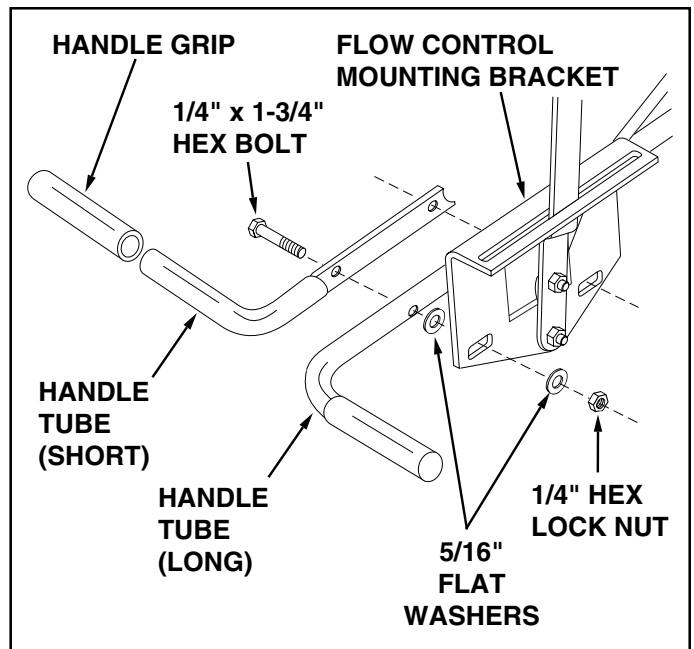

FIGURE 10
20. Assemble both the flow control mounting bracket and the short handle tube to the long handle tube using two 1/4" x 1-3/4" hex bolts, four 5/16" flat washers and two 1/4" hex lock nuts. **Do not tighten at this time.** See figure 10.
21. Place a handle grip on each handle. See figure 10.